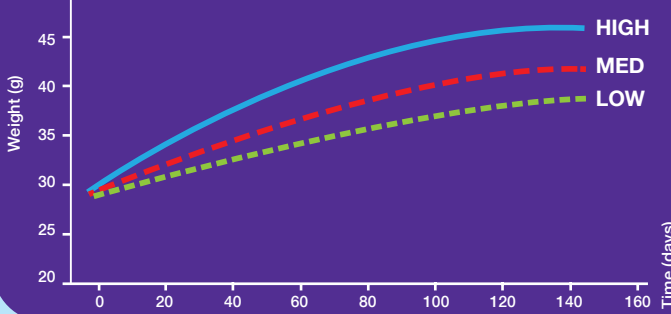

Figure 3. Growth of juvenile Ballan wrasse at different stocking densities
**Figure 3** shows the impact of differing stocking densities (1, 2 and 4kgm-3, arbitrarily termed 'low', 'medium' and 'high', respectively) on the growth performance of c. 30g juvenile Ballan wrasse in a feeding trial conducted using rearing tanks in the west of Ireland over ten weeks.